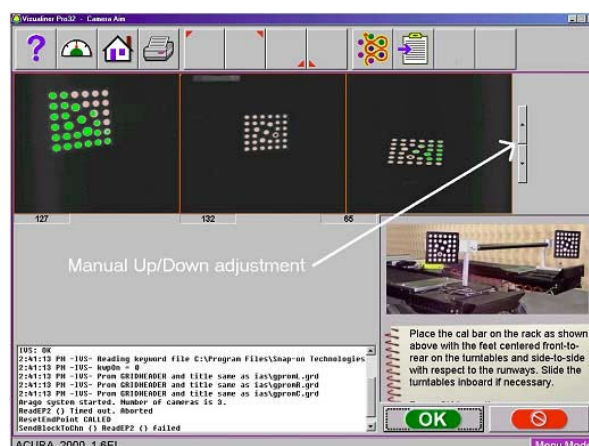

Figure 20
8. Using the Up/Down arrows move the camera pods to the camera height recorded in step 3 (C). This is the distance between the floor and the bottom of the camera pod. Press "OK" to continue. See Figure 20.